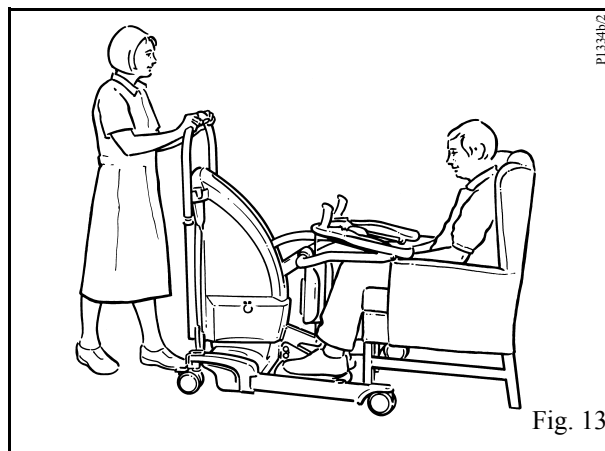

Fig. 13
When the patient is ready, give assistance or allow the patient to place his/her feet on the foot support, pushing the *Sara Plus* towards the patient a little to achieve this easily. (See Fig. 13).
- **Note:** As stated previously, the standing sling may be applied before the *Sara Plus* is brought into position as shown in figure 13.